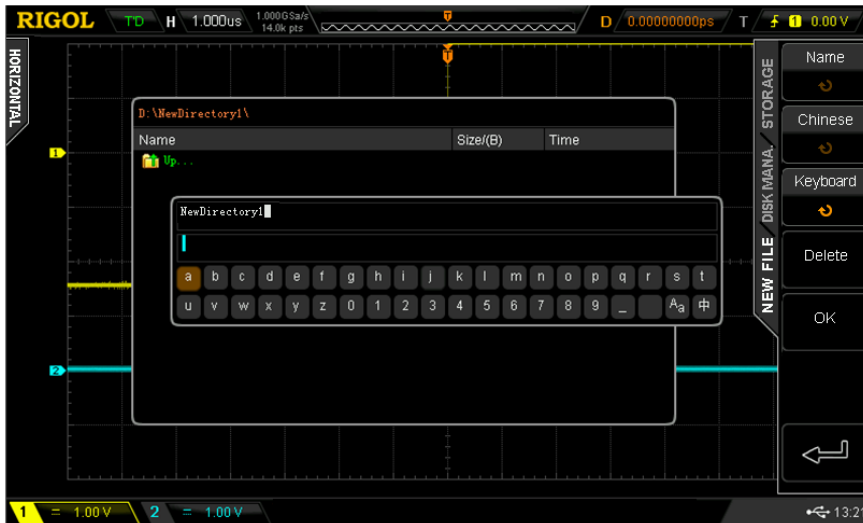

Figure 12-5 External Disk (To Create a New File)
- 4) After the storage position is selected, press **New File** to turn on the interface as shown in Figure 12-5. Refer to the descriptions in "**To Create a New File or Folder**" to create a new file.